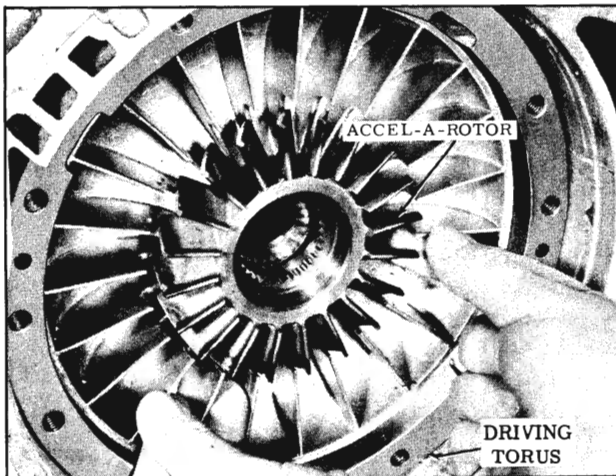

Fig. 3-244 Removing Drive Torus
44. Remove the drive torus and accel-a-rotor as a unit. (Fig. 3-244)